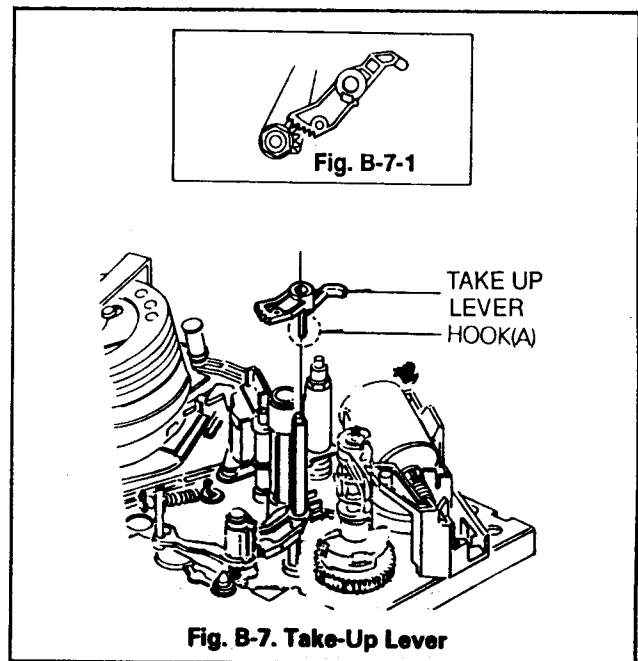

Fig. B-7. Take-Up Lever
7. Take Up Lever(Fig. B-7)
- 5) Remove the Take-Up Lever by pushing the hook(A) outward(Fig. B-7).